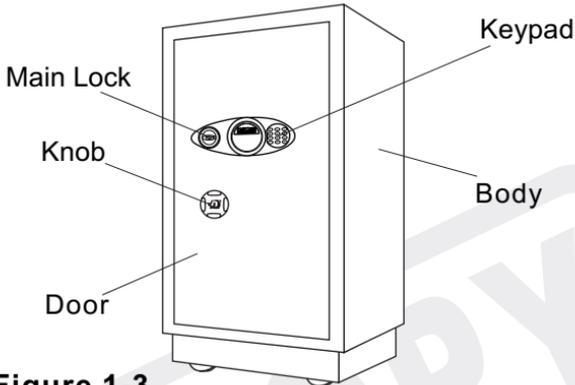

Figure 1-3
3. Turn the main key clockwise ↻ (and turn the knob of model JJB-231, JJB-241, JJB-251 private container (See Figure 1-3) clockwise ↻) to open the container door.
6. Turn the main key counterclockwise ↶ to extend out the locking bolts to lock the container door. For model JJB231, JJB-241, JJB-251 private container, first turn the knob (See Figure 1-3) counterclockwise ↶ to extend out the locking bolts and then turn the main key counterclockwise to lock the container.
Please operate the container with your new user code according to the above steps 1~3 and 6 to confirm that your new user code can open the container door. Close the container door, turn the main key counterclockwise ↶ (for model JJB-231, JJB-241, JJB-251 private container, turn the knob (See Figure 1-3) counterclockwise ↶ first) and pull out the main key. Now your user code has been changed successfully.
For model JJB-231, JJB-241, JJB-251 private container, further turn the knob (See Figure 1-3) clockwise  to open the door.